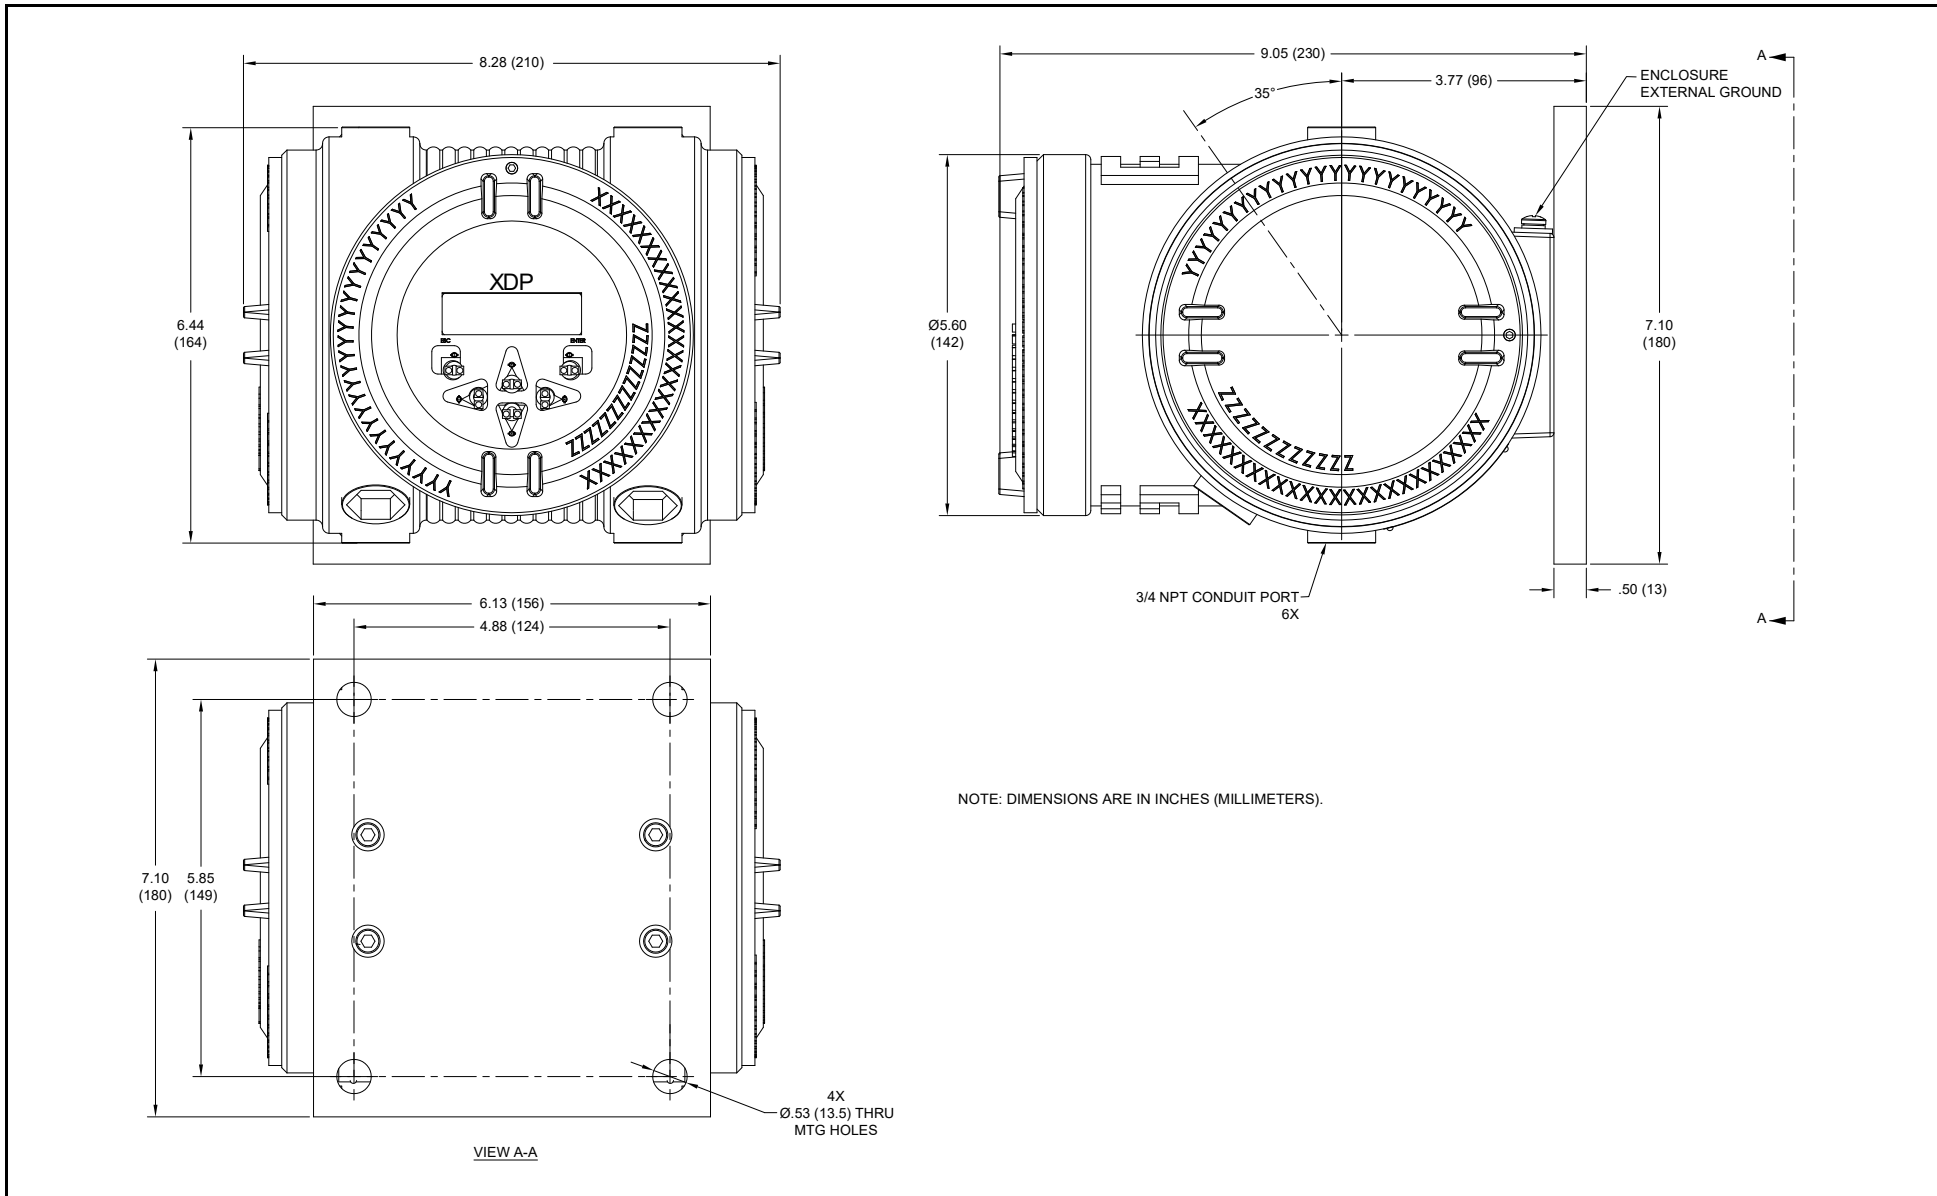

Figure 2-2: XDP Mounting Dimensions (ref. dwg #712-1095)
- c. Connect the *ground* power lead (green or green/yellow) to the chassis ground screw shown in Figure 2-2 on page 2-8.